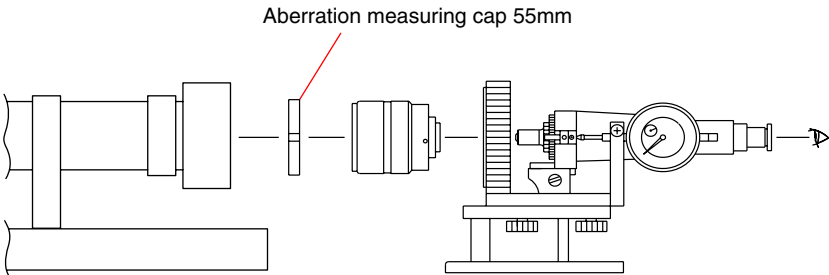

Fig.4-5-1
- 2) Set the aberration measuring cap 55mm (F8 equivalent) on the tip of lens as shown in the Fig.4-5-1, then measure the flange back (f’F).